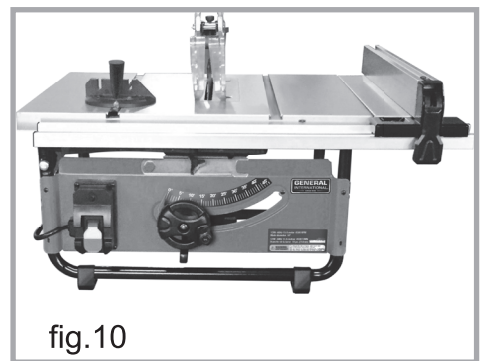

fig.10
4. The conventional fence set-up is to the right of the blade as shown in fig 10, although circumstances or preference may dictate a left mount.